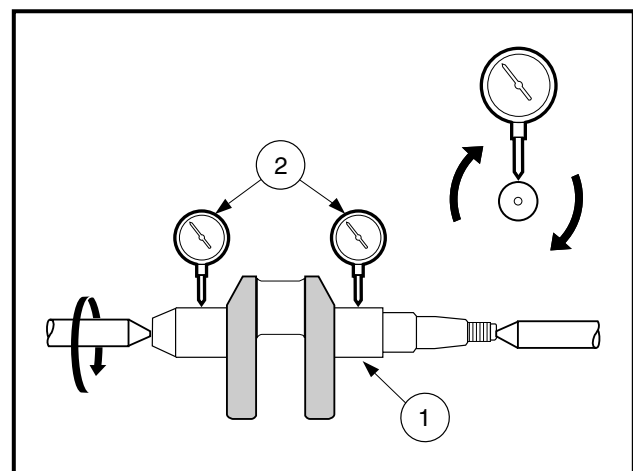

Figure 2-81 Measure Total Indicated Run-Out
- 5.2. Turn the crankshaft (1) slowly and measure total indicated run-out at the location shown (2) (**Figure 2-81, Page 2-35**).